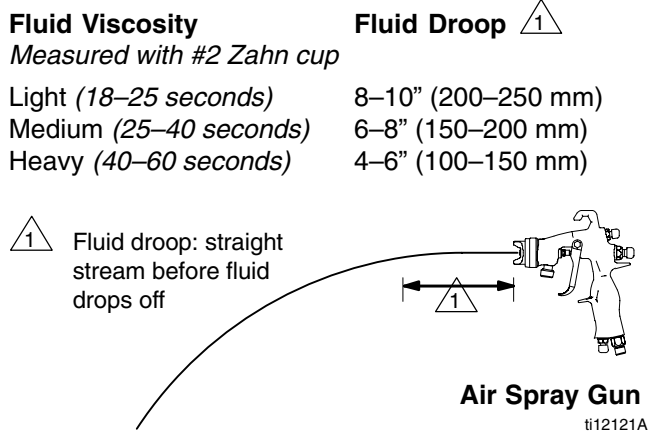

Fig. 6
To determine the fluid pressure setting, hold the gun parallel to the floor. (Be sure to catch the fluid in a container.) With the gun air pressure turned off, trigger the gun. Adjust the pressure pot regulator (33) until the straight fluid stream is within the range indicated for the viscosity of your fluid before it drops off. That is your optimal pressure pot air pressure. See Fig. 6 and 7.